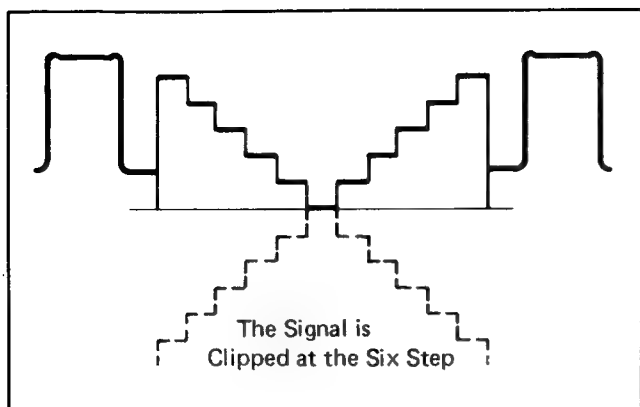

Fig. 37
3. Adjust the gamma reference voltage control, VR306, so that the signal is clipped at the sixth step from the bottom as shown in Fig. 37.